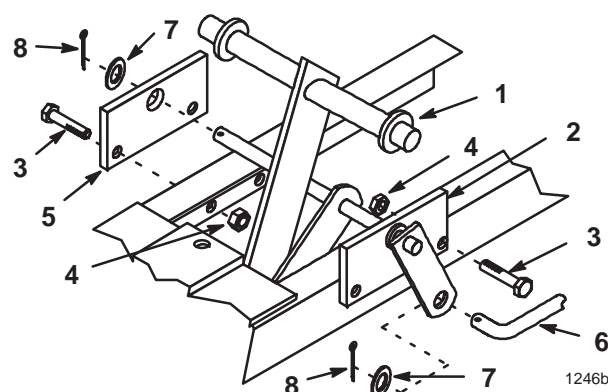

Figure 5
12. Place front lift weldment between frame and attach captured plate to frame with (2) 3/8 x 1" bolts and (2) 3/8" lock nuts (Fig. 5).
13. Slide remaining plate over shaft and secure to frame with (2) 3/8 x 1" bolts and (2) 3/8" lock nuts. Secure lift assembly shaft to plate with 5/8" washer and cotter pin (Fig. 5).
14. Attach lift rod to lift weldment and secure with 5/8" washer and cotter pin (Fig. 5).